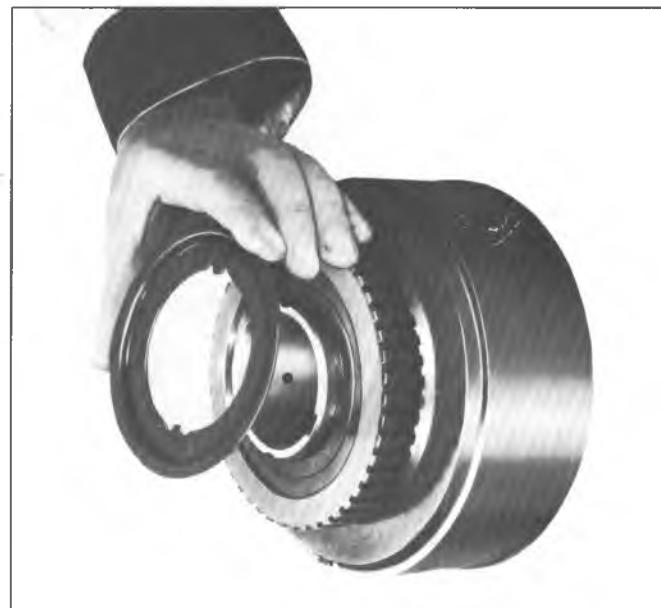

Fig. 7A-109C--Installing Intermediate Clutch Retainer
12. Install the intermediate clutch outer race with a clock wise turning motion (fig. 7A-107C).